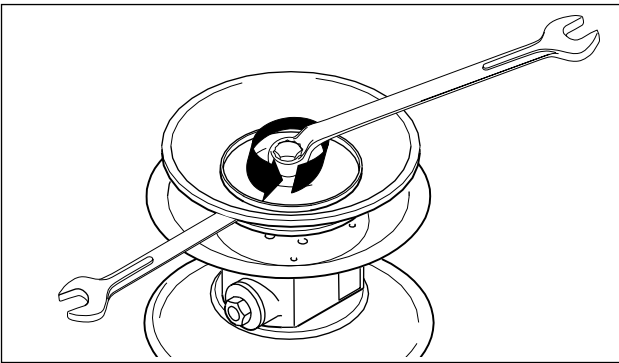
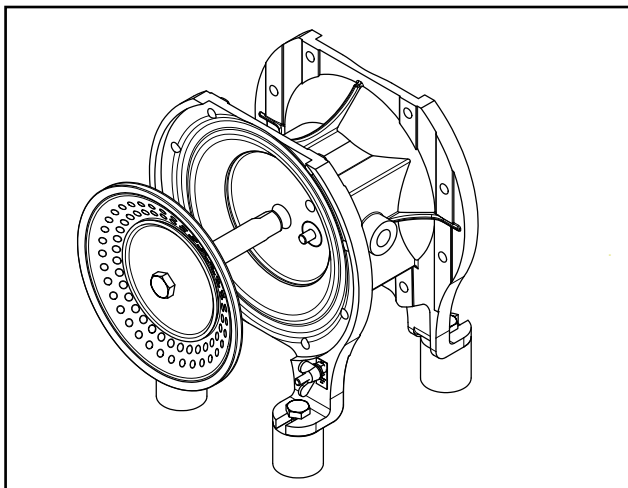

Fig. 10: Loosen the diaphragm plate. (Not used for nopped E4® diaphragms.)
Fig. 21: Pulling out the diaphragm with piston rod
- Loosen the outer diaphragm plate and take it off with the diaphragm (Fig. 10).
- Loosen the outer diaphragm plate and remove with the diaphragm (Fig. 10 + Fig. 21).
- Loosen diaphragm, see Fig. 10 and 21
- The pump chambers, sockets and diaphragms can conveniently be disassembled with the pump standing upright inside the frame (deviating from fig. 10)
also see 5.3.2.3. Deviating from fig. 21, loosen the diaphragm plates first of all. Remove the piston rod separately from the control block.